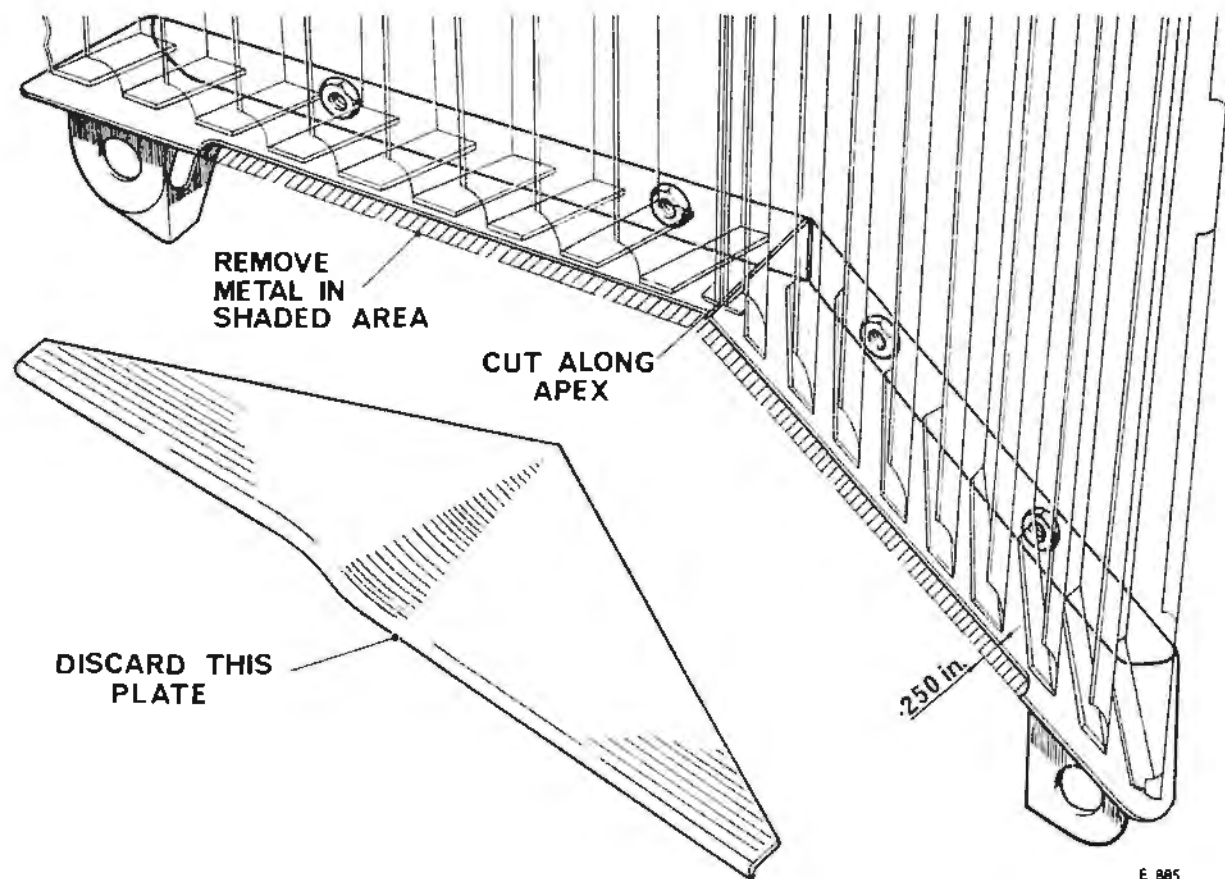

Fig.1 Modified radiator shutter assembly
To eliminate the 'moan', the stiffness of the whole vane assembly was reduced so that its natural frequency of vibration was lowered sufficiently to take it outside the audible range. This was achieved by discarding the triangular shaped blanking plate which is spot welded onto the horizontal flange of the vee shaped lower bearing strip and by removing 0.250 in. from the rear side (i.e. spot welded area) of the lower bearing strip. The strip was then cut into two equal lengths by cutting along the apex of its vee form. For details of the modification see Figure 1.
- (1) Try to substantiate the customer's complaint if the prevailing weather conditions are as stated.
- (2) Remove the radiator shell.
- (3) Remove the vane assembly complete.
- (4) Carefully remove and discard the triangular shaped blanking plate from the vee shaped lower bearing strip onto which it is attached by means of spot welds.
- (5) Reduce the width of the horizontal flange of the lower bearing strip by removing metal from the area shown shaded (see Fig.1).